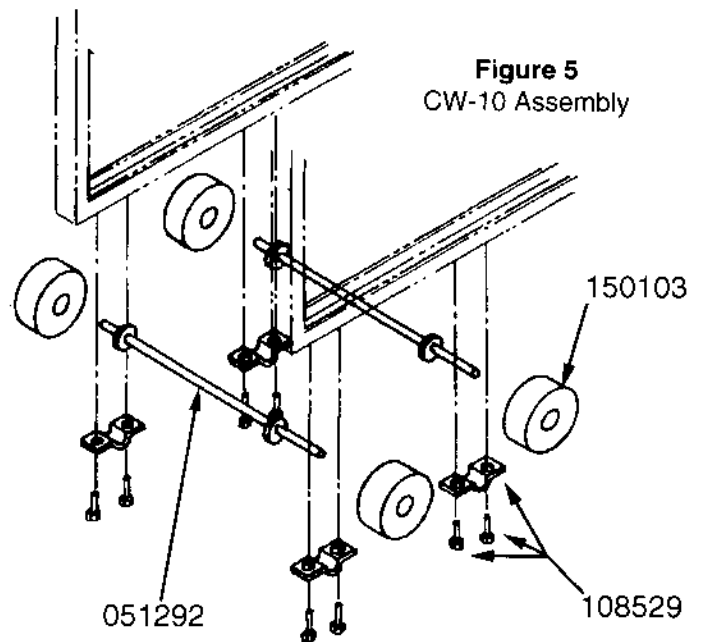

Figure 5
- (1) Slide wheels (#150103) onto axles (#051292). With cradle upside down, place axle clips (from #108529) over the axles, and bolt to side frames. See Figure 5.